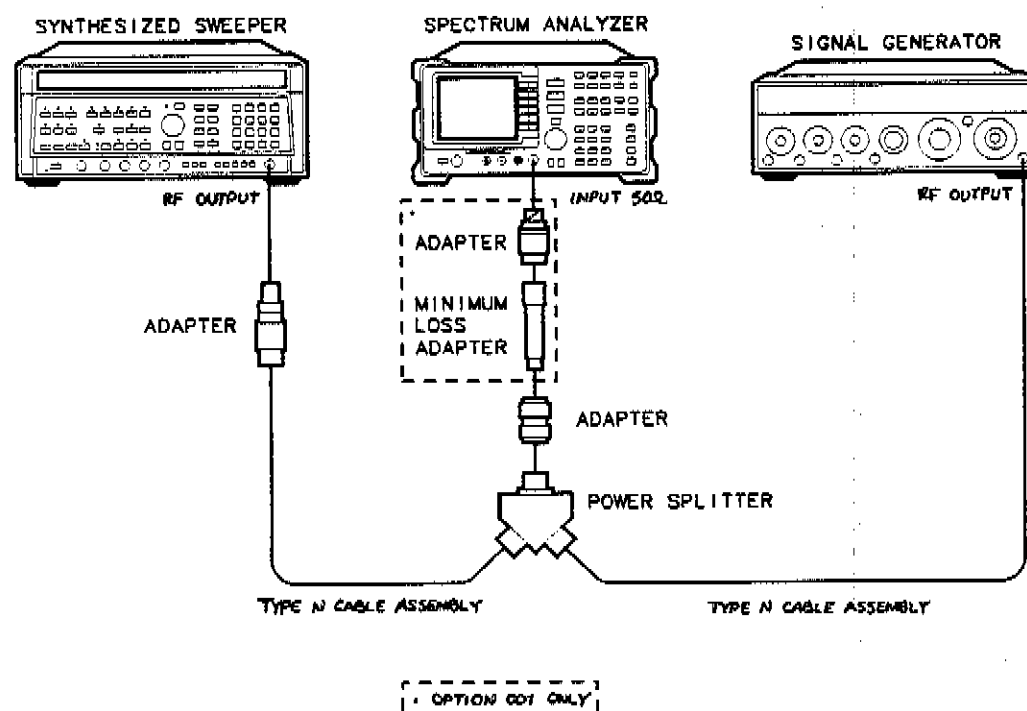

Figure 1-6. Frequency Span Accuracy Test Setup
1. Connect the equipment as shown in Figure 1-6. Note that the power splitter is used as a combiner.